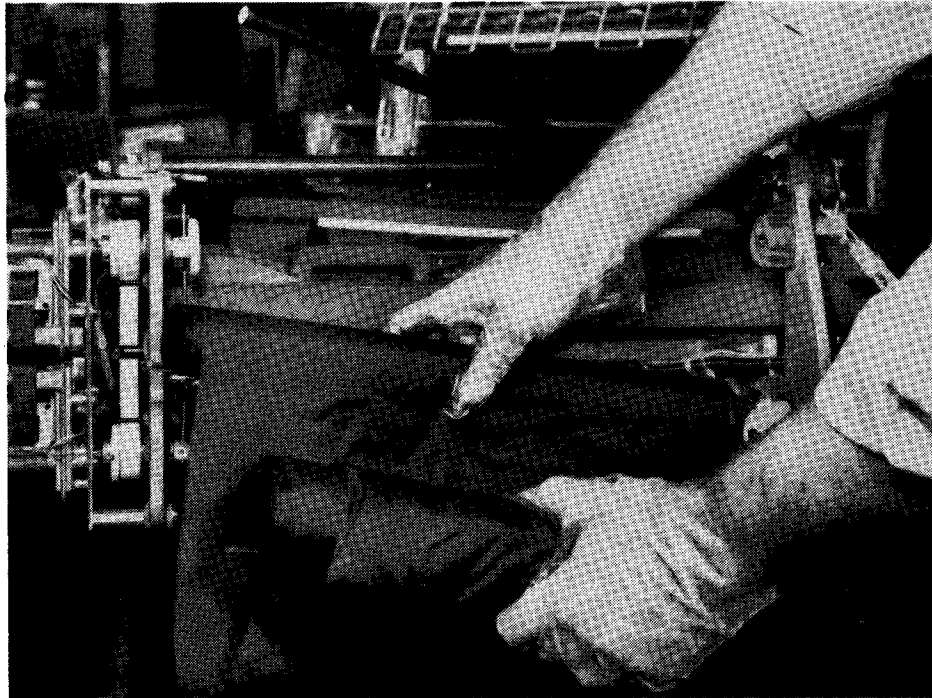

Figure 4-11. Removing Upper and Lower Takeup Spools
5. Remove lower spool from lower takeup spool holder (Figure 4-11) by pushing spool toward spring-loaded spool holder.
6. With both takeup spools disengaged, remove ribbon from around print carriage assembly and discard ribbon (Figure 4-11).